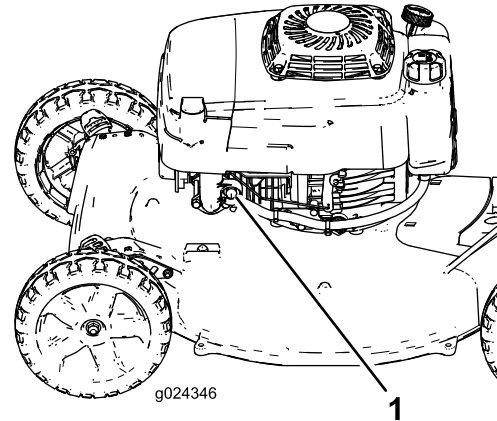

Figure 14
2. Firmly push in the primer (Figure 14), holding the primer bulb for 1 second.